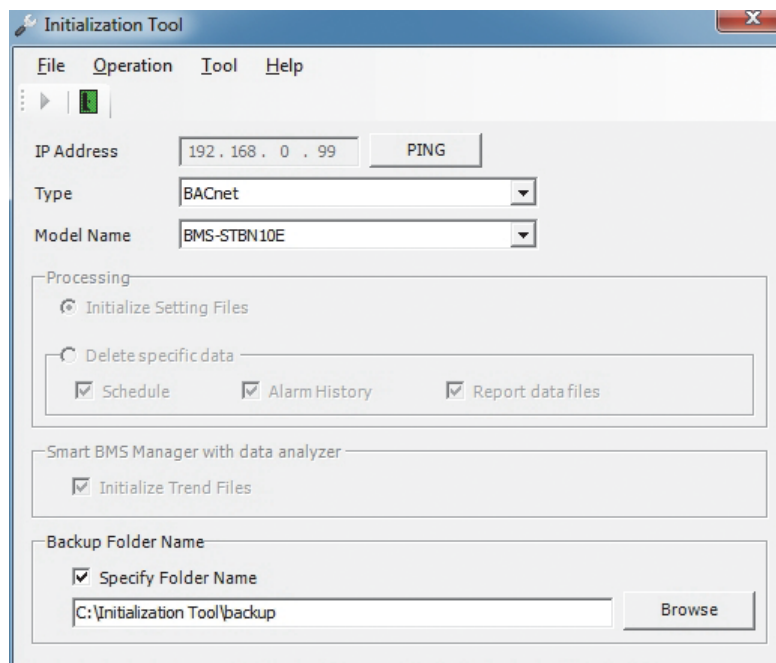

Fig.256 [Initialization Tool] screen
- 3 Specify a backup folder. (Fig.256)**